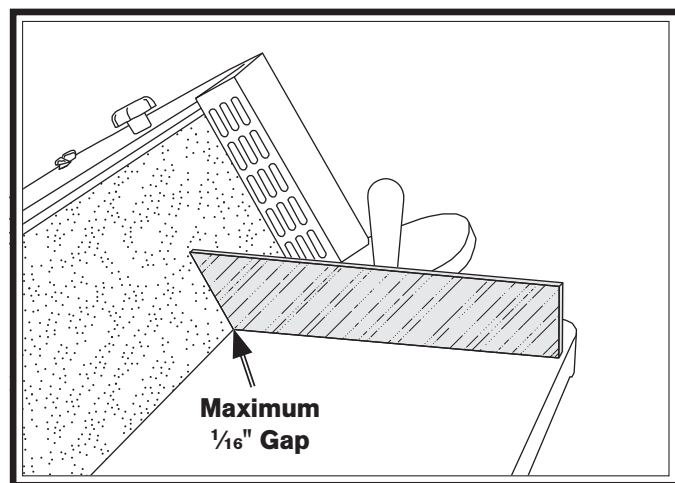

Figure 34. Board in miter fence position.
7. Remove (2) hex bolts from miter fence.
8. Place board in miter fence position against table so angled edge is within $\frac{1}{16}$ " of sanding belt (see **Figure 34**).